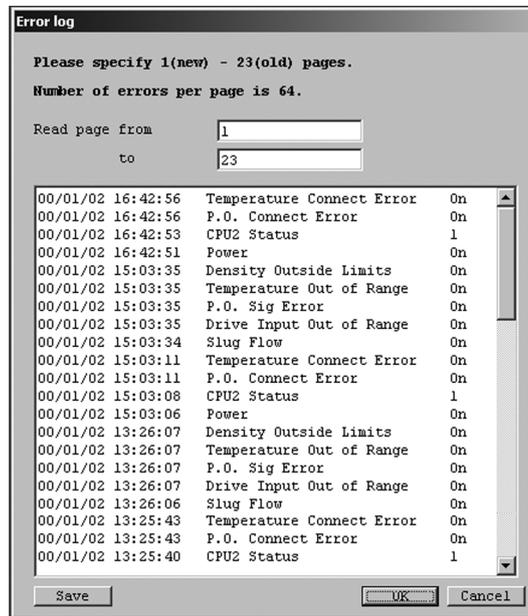

Fig.144
- ① Click the "Maintenance (M)" menu, and then select and click "Error log" from the "Maintenance xmtr" drop-down list.
- ② The following window will be displayed (Fig. 144).